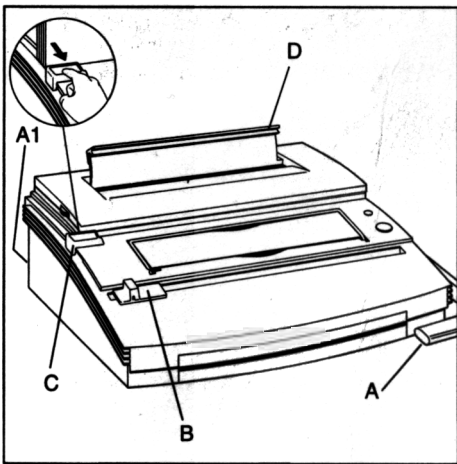

Figure 1
1. Push the handle (A) onto the shaft located on the right side of the machine (see figure 1). Align the flat spot of the handle with the flat of the shaft and secure it with the allen wrench provided.
1. Set Edge Guide (B) to paper size you wish to bind (11", 8-1/2" letter size, 11-1/4" oversized cover, A4 ring, A5, Japan A4) (see figure 1). When using oversized covers, set the Edge Guide on Covers, punch all of the covers for your job and set aside. Move the Edge Guide back to the 11" setting to punch your contents then bind.
1. Slide the Binder Sizer open (C) (see figure 1).